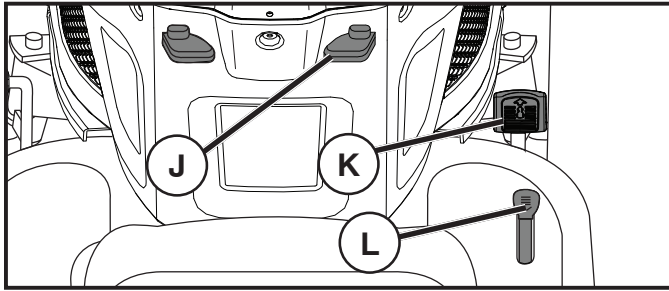

Fig. 8
TO USE CRUISE CONTROL (J) (See Fig. 8)